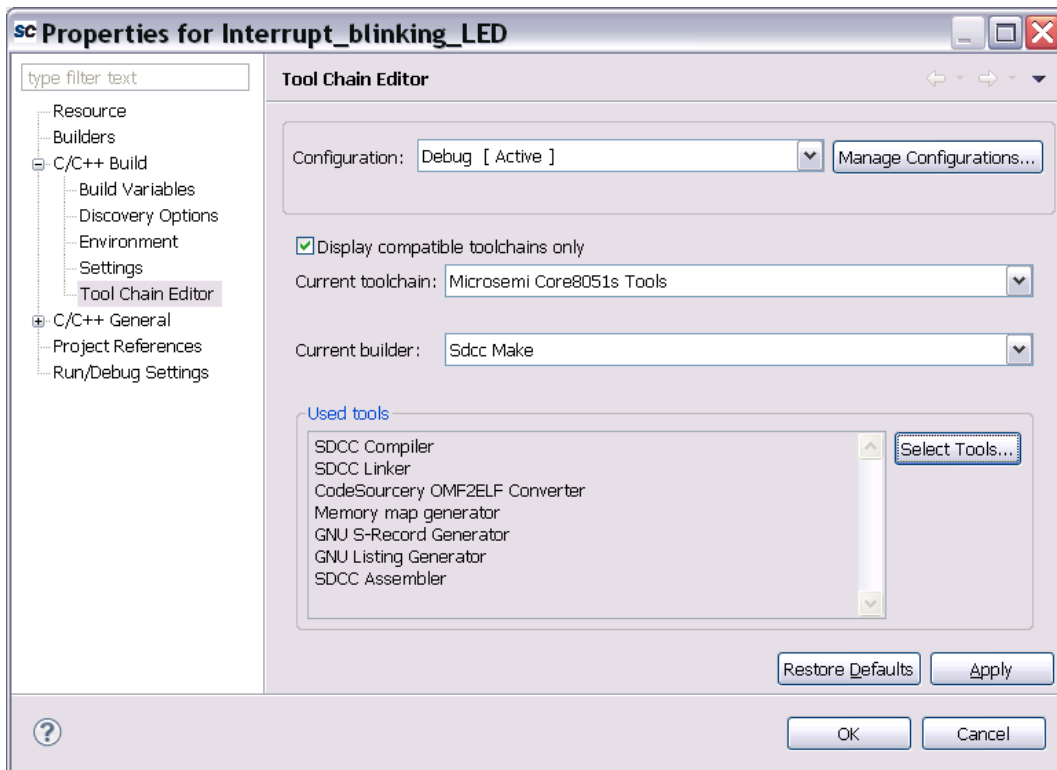

Figure 33 Project Properties
- In the **Tool Chain Editor** window, the SDCC Assembler should be listed under **Used tools**. Click **Apply** and click **OK**, as shown in Figure 33.